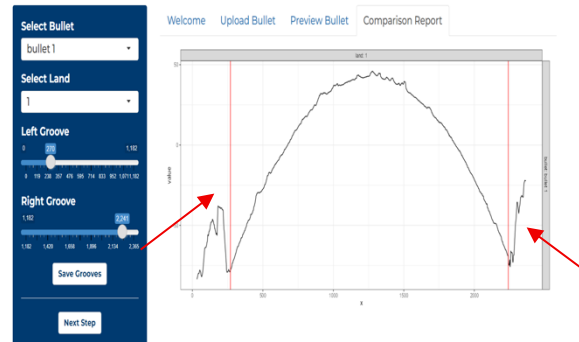

Figure 11. The profile plot of Bullet 1 Land 1 after the grooves are moved.
- Adjust the groove locations using the slider bars to keep as much of the land as possible. (Figure 11)